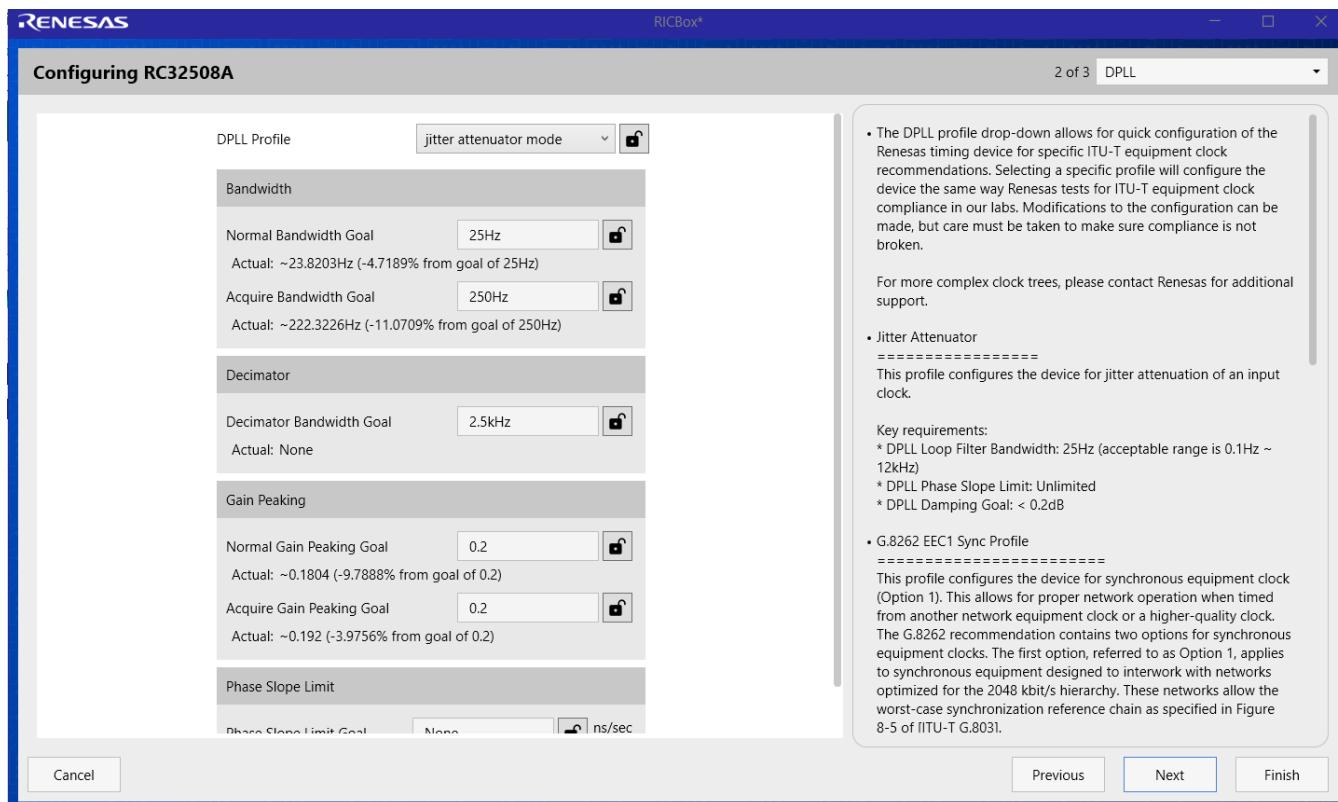
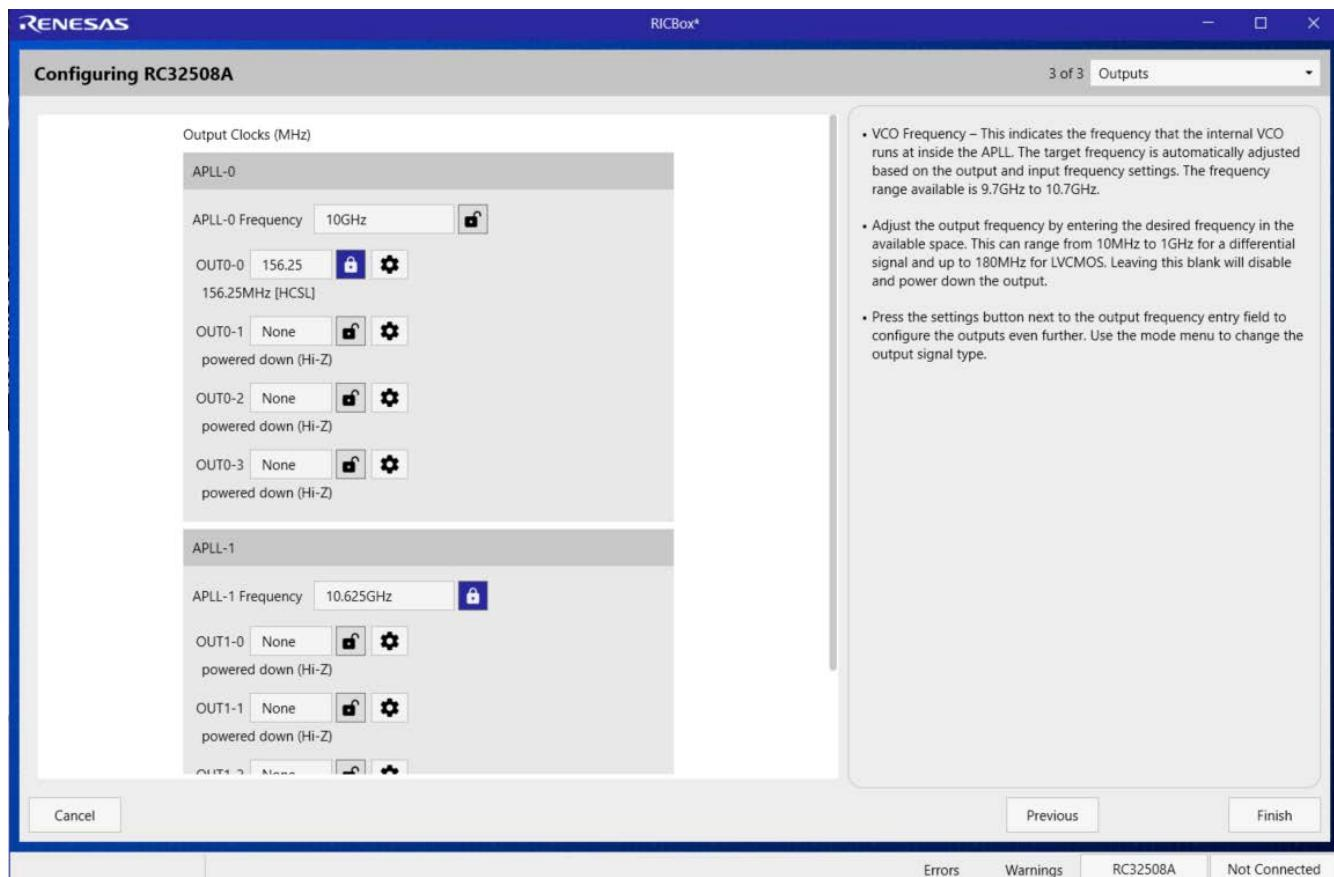

Figure 11. Jitter Attenuator Mode Settings Window
Figure 12. Output Settings Window
- If **Jitter Attenuator** mode is selected, the jitter attenuator configuration window (screen 2 of 3) appears with a list of settings (see Figure 11). If **Synthesizer** mode is selected, the jitter attenuator window is skipped and the user is then directed to the **Output Clocks** window (screen 3 of 3) See Figure 12.
### 3. The **Output Clocks** window (screen 3 of 3) sets up the outputs (see Figure 12).